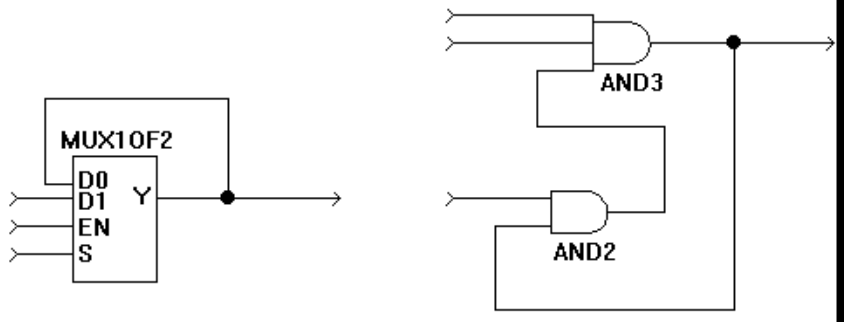

Figure 5-21 Examples of combinatorial loops (feedback)
- Avoid combinatorial loops. The ATVG tool cannot test combinatorial loops such as those shown in Figure 5-21. Logic driven by or driving these loops may be untestable.
The ATVG tool tries to use all of the flip-flops in the FPGA device for testing purposes. Clocking, setting, or clearing a flip-flop by internal logic renders the flip-flop useless to ATVG, reducing testability. Examples of logic structures that reduce testability in this way are shown in Figure 5-21.